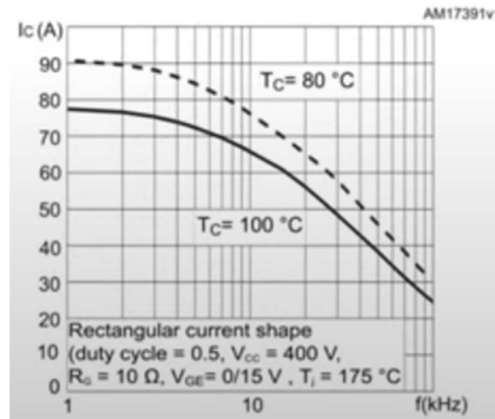

Figure 3: Collector current against switching frequency for an IGBT
- IC: Maximum continuous collector current. The continuous collector current determines the amount of heat dissipated in the IGBT. The higher the current that passes through the IGBT, the more the heat is dissipated. If the current is too high, the temperature will reach the point where the IGBT will be damaged. It is also important to know that the maximum continuous current decreases as switching frequency increases as seen in figure 3: